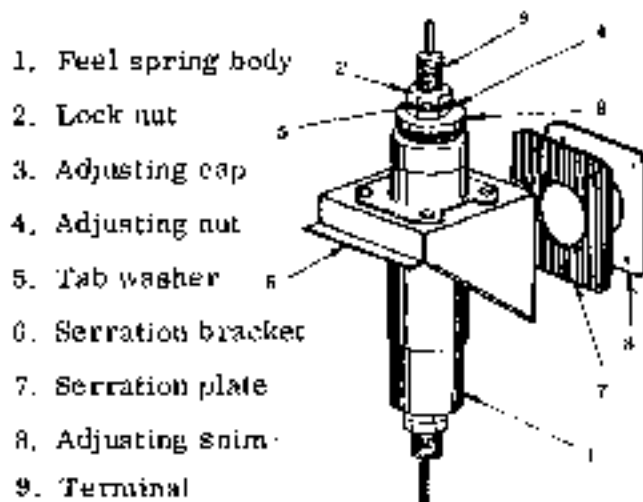

Fig. 5-44 Feel spring assembly
5.5.3 REMOVAL, INSTALLATION AND ADJUSTMENT OF FEEL SPRING (See Fig. 5-44)